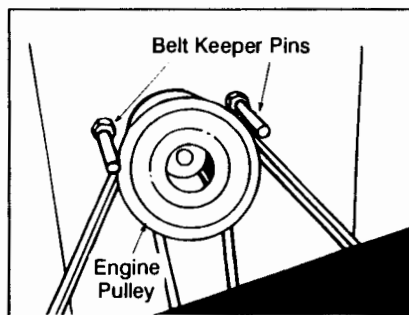

FIGURE 21
**NOTE:** Figures 21 and 23 are shown with the unit tipped up for clarity. It is not necessary to tip the unit to remove the belts.
2. Remove the belt guard studs (belt keepers) from the engine pulley belt guard. See figure 21.
**NOTE:** When reassembling, make certain studs are assembled in the same locations from which they were removed. See figure 21.
**NOTE:** Figure 21 is shown with the unit tipped up for clarity. It is not necessary to tip the unit to remove the belts.